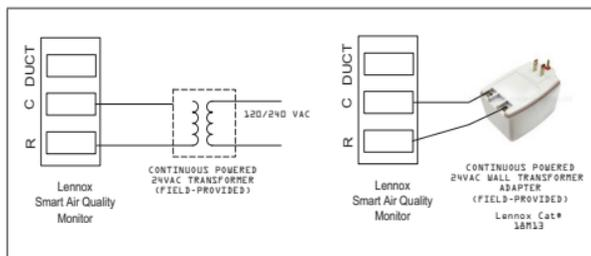

Figure 3. Separate or Plug-in Transformers
- The additional transformer might be a secondary transformer or a wall plug (see "Figure 3. Separate or Plug-in Transformers").